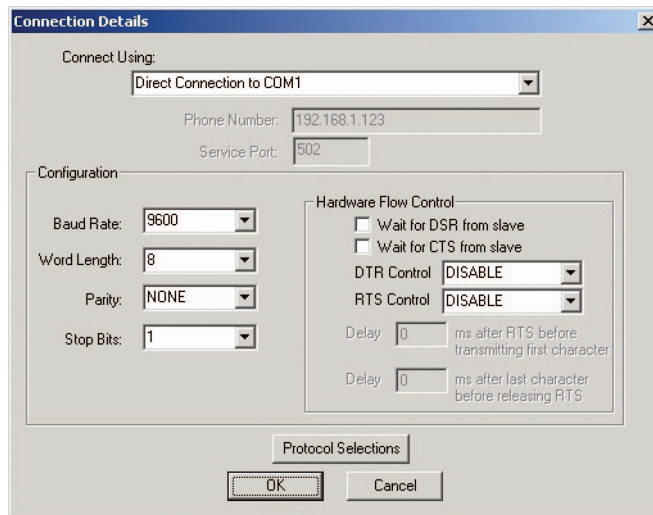

Figure 3-5 “Connection Details” dialog box with direct connection parameters
3. The default settings that appear should be correct for the COM port selected (see Figure 3-5).